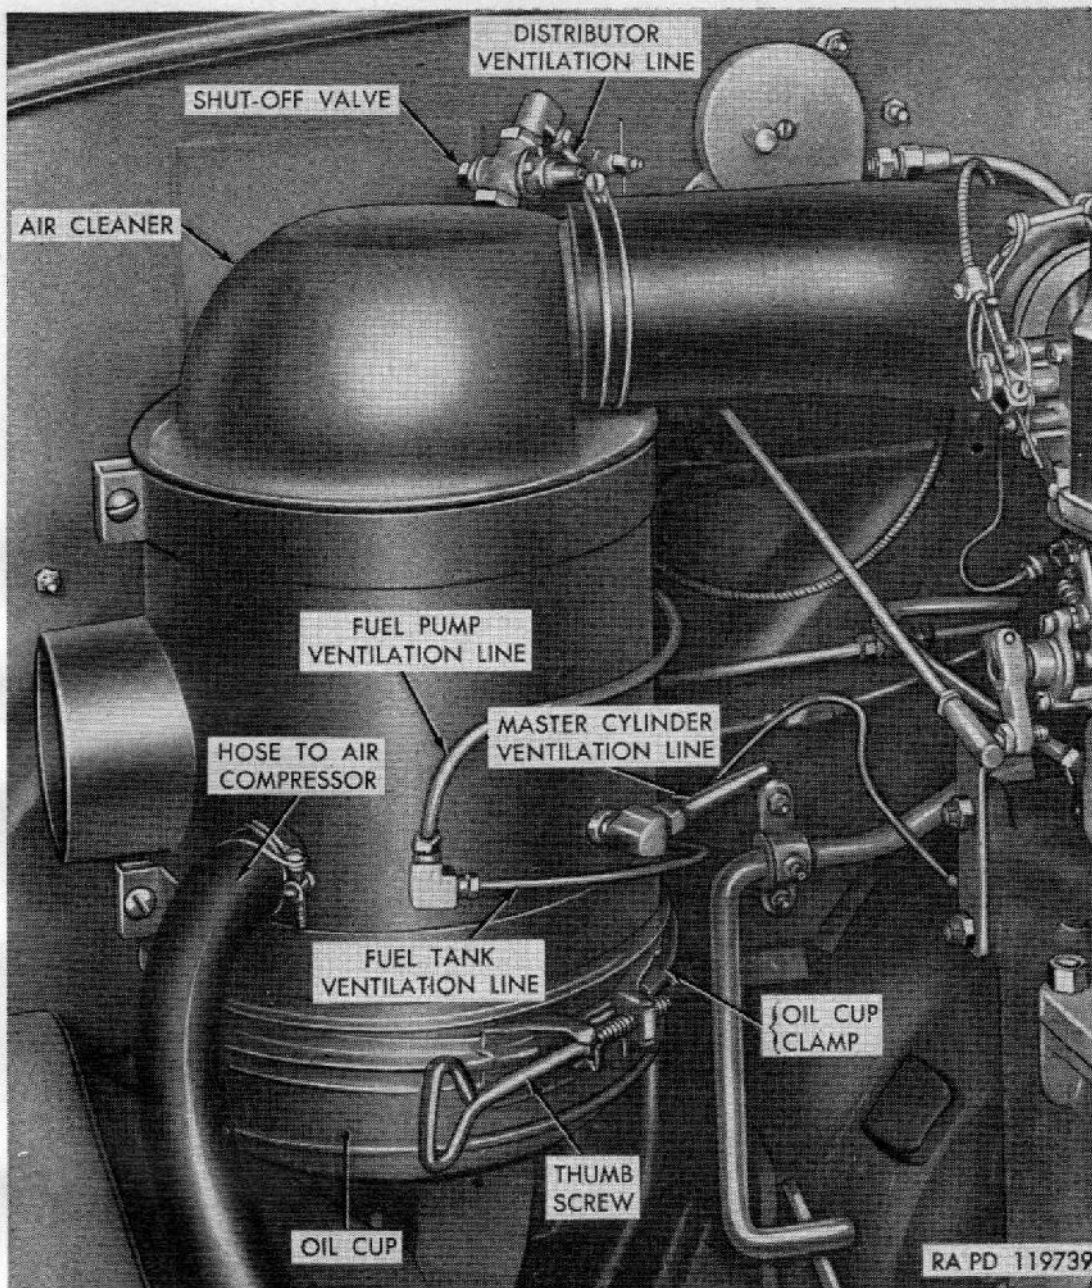

Figure 54.-Servicing air cleaner.
- (1) *General.* Fuel system is composed of air cleaner, carburetor, carburetor controls and linkage, governor, manifold heat-control valve assembly, fuel pump, fuel tank, fuel line, and primer pump.
- (2) *Air cleaner.* An oil-bath-type air cleaner is mounted on right side of dash panel (fig. 54). All air for combustion passes through this air cleaner before entering carburetor. Air entering cleaner through side opening passes into oil chamber where most of suspended dirt is deposited in oil cup at bottom. Air then passes through an oil-saturated mesh and out to carburetor. Ventilation lines from fuel pump, distributor, crankcase, fuel tank, master cylinder, and air hydraulic cylinder are connected to air cleaner.
- (8) *Fuel tank*. Model M34 and M36 trucks have a fuel tank mounted below the right-front corner of the body (fig. 60). Tank is supported by two brackets and secured by two mounting straps. Fuel tank on model M47 and M59 is mounted on left side of truck below the cab (fig. 61). It is supported by three brackets and secured by three mounting straps. Tanks are vented to air cleaner (fig. 54).
- (9) *Fuel lines*. A metal fuel line extends from fuel tank to fuel pump. This line is covered with protective loom where necessary, and is secured in position with clips.
(fig. 54)